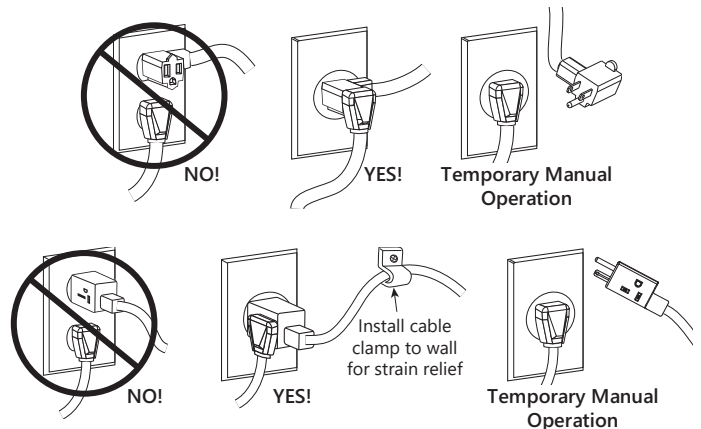

Figure 1. Piggyback Switch Operation
1. Pumps that are idle for more than a month in a dry basin should have impellers manually operated through the breaker panel monthly to lubricate the seals. For **automatic models**, turn off the breaker, unplug the piggyback switch, and plug the pump directly into the wall socket. Turn the breaker on for 30 seconds, then turn the breaker off. Plug the piggyback switch back in. Refer to Figure 1 on page 7. **Limit the lubrication run time to less than one minute per pump.**